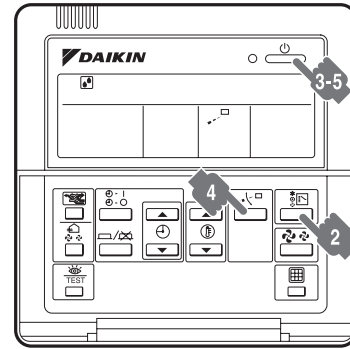

figure 8
**FOR SYSTEMS WITH COOL/HEAT SELECTOR (Refer to figure 8)**